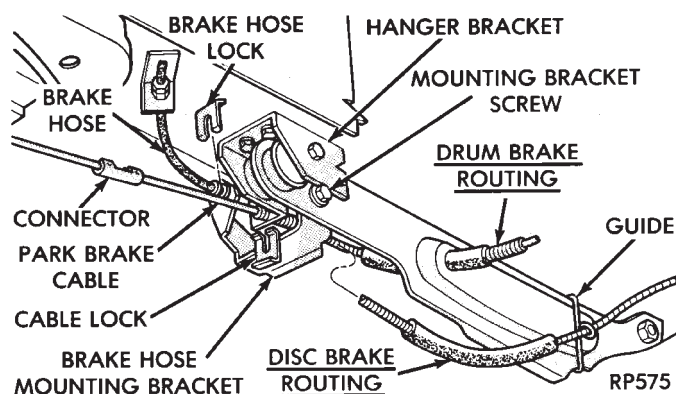

Fig. 1 Remove Brake Hose Mounting Bracket Screw and Park Brake Cable
(1) Raise vehicle (see Hoisting, Group 0). Support axle with jack stands and remove wheel and tire assembly.
(2) Separate park brake cable at connector. Detach cable housing from hanger bracket (Fig. 1).
(3) Remove lock and separate brake tube assembly from brake hose mounting bracket (Fig. 1).